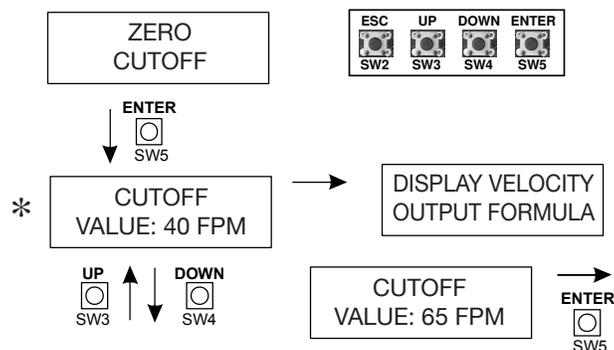

Figure 19: Zero Cutoff Submenu
- Figure 19 DISPLAY VELOCITY OUTPUT FORMULA